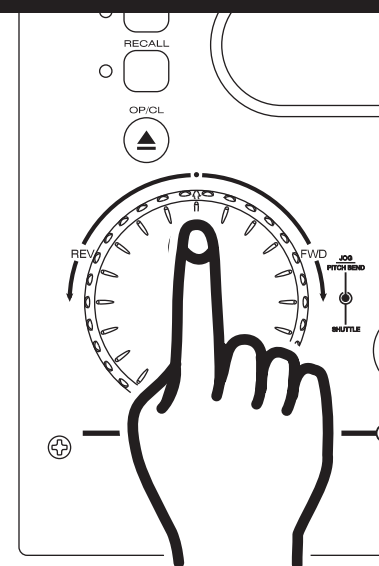
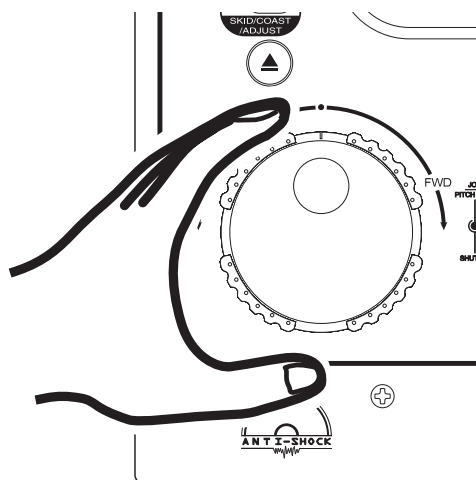

Figure 8
Figure 9
This feature allows you to scroll through a track to set a cue, starting sample, or loop point. To use the scroll function you must first be in Pause Mode or Cue Mode. Once you are in Pause or Cue mode, use your finger tip to turn the **JOG WHEEL (6)** to scroll through the track (figure 8). Turning the wheel in a clockwise direction will advance the frame search and turning the wheel in a counter-clockwise direction rewinds the frame search. When you use the **JOG WHEEL (6)** the monitor (headphone level) function allows you to hear what you are scrolling through. Once you reach your desired starting point you can set a cue (starting) point by pressing the **PLAY/PAUSE BUTTON (11)** as in figure 9. Pressing the **CUE BUTTON (9)** will return the disc to the cue point just set.